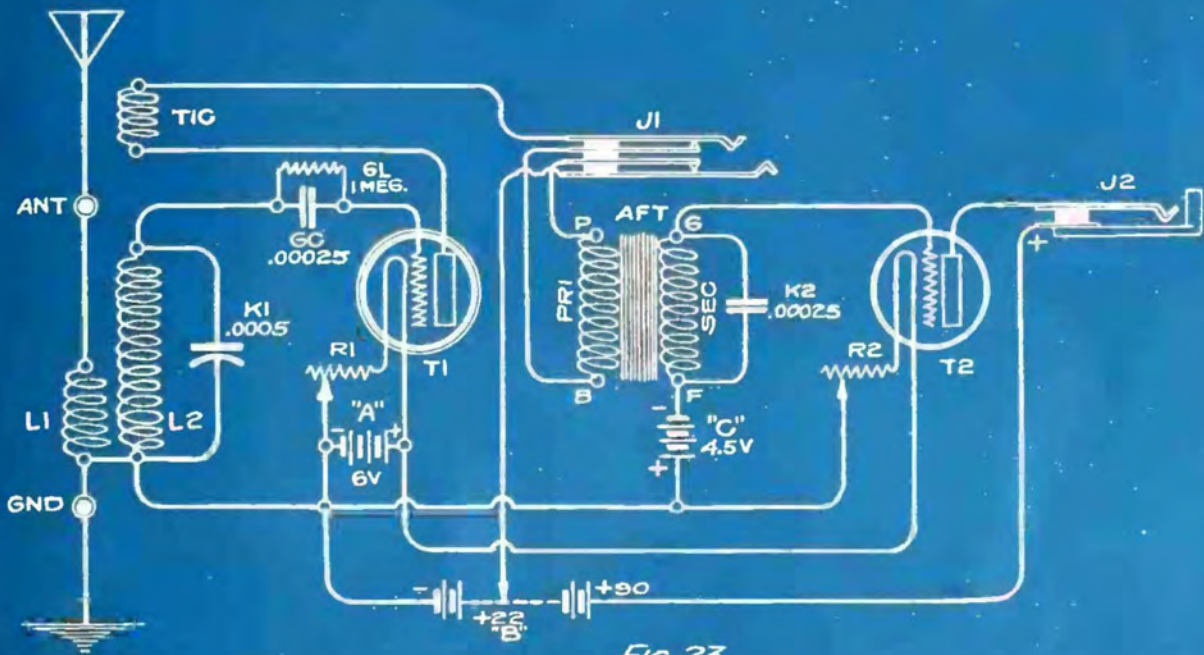

Fig. 23
In Fig. 23 is a regenerative circuit with one stage of audio frequency amplification, a type of circuit, very commonly met with. The detector tube (T1) is a soft tube, while the amplifier tube (T2) is a hard tube, as will be seen from the circles. A coupler is used for tuning, having the primary coil (L1) and the secondary coil (L2), this being used sometimes instead of the abbreviations "PRI" and "SEC." The secondary is tuned by the variable condenser (K1). For regeneration we have the tickler coil (TIC) placed directly above the secondary coil (L2) and connected with it by means of an arrow. The arrow in this case indicates that the two coils are inductively coupled by a variable relation; that is, that the position of (TIC) can be varied in respect to (L2). The grid condenser (GC) and the grid leak (GL) are shown connected to the grid of the tube.